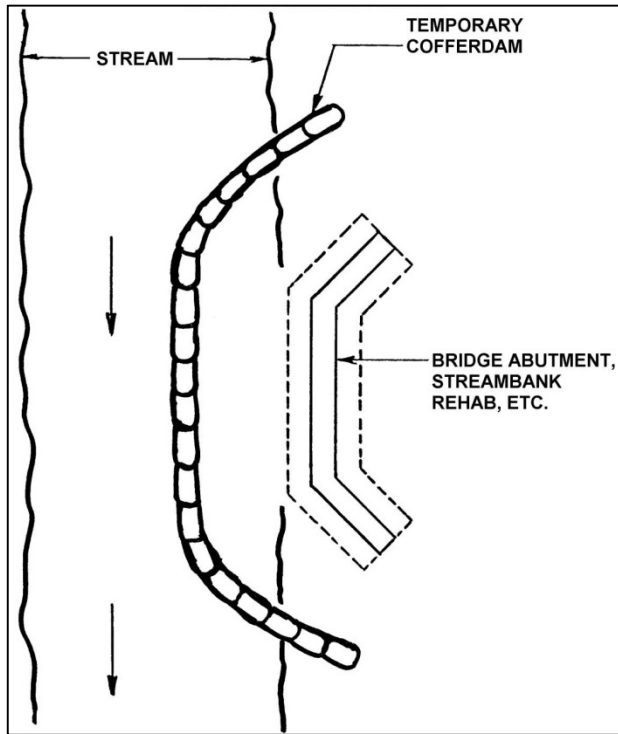

Figure 61: In-Stream Cofferdam Diversion
- See **Figure 61** for typical layout. Temporary Cofferdam shall be constructed of sandbags, Jersey Barriers or other non-erosive material, no earth fill.